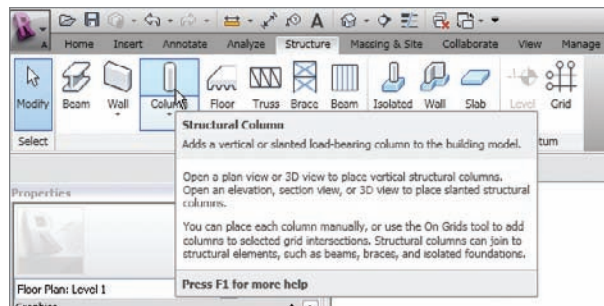

FIGURE 8.21 The Structural Column button on the Structure tab of the Ribbon
3. On the Structure tab, click Column > Structural Column, as shown in Figure 8.21.